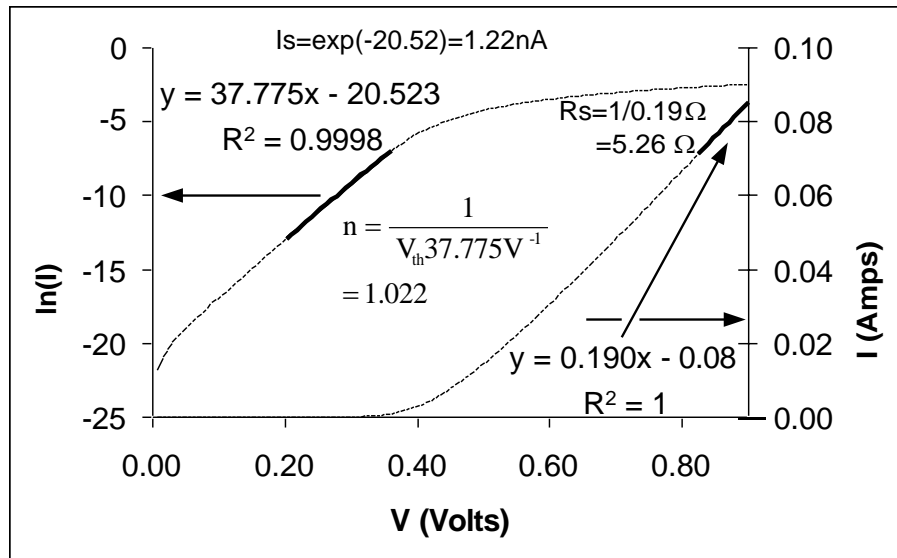

Figure 44: Simple extraction methodology plot for a diode with an IV characteristic generated from equation 1.
To extract n and I_s using the simple method the natural log of the current is plotted vs. the applied voltage (Figure 44). A linear range is selected, and a linear regression is performed. The results are of the form $y=Ax+B$. The ideality factor n is given by equation (7), while the reverse saturation current is given by equation (8).
R_s is found by finding the linear range of the current vs. voltage plot (Figure 44) and performing a linear regression to extract the slope. R_s is given by: